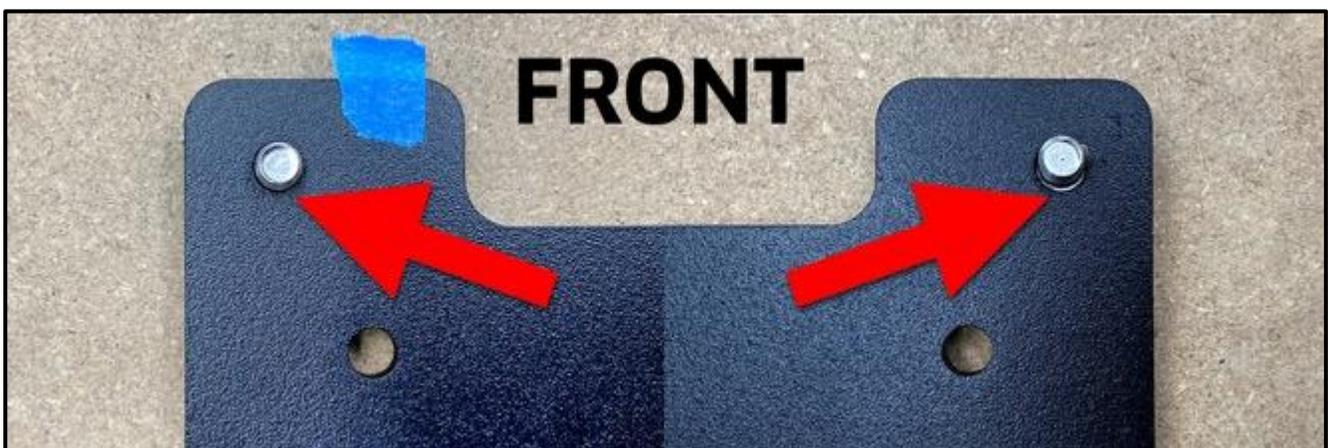

Figure 3-10
PRO TIP: An easy way to spot the smallest hole in the tramming plate is to closely compare the top two holes, as shown in **Figure 3-10**. Insert two of the tramming screws into the top two holes and look closely at the difference in space around each screw. The larger hole has space around the screw (right) and the smaller hole does not (left). Once you've determined the **FRONT** of the tramming plate, mark it with a piece of masking tape to ensure correct installation as shown in the figure.
2. Carefully inspect the top two holes shown in **Figure 3-10**.